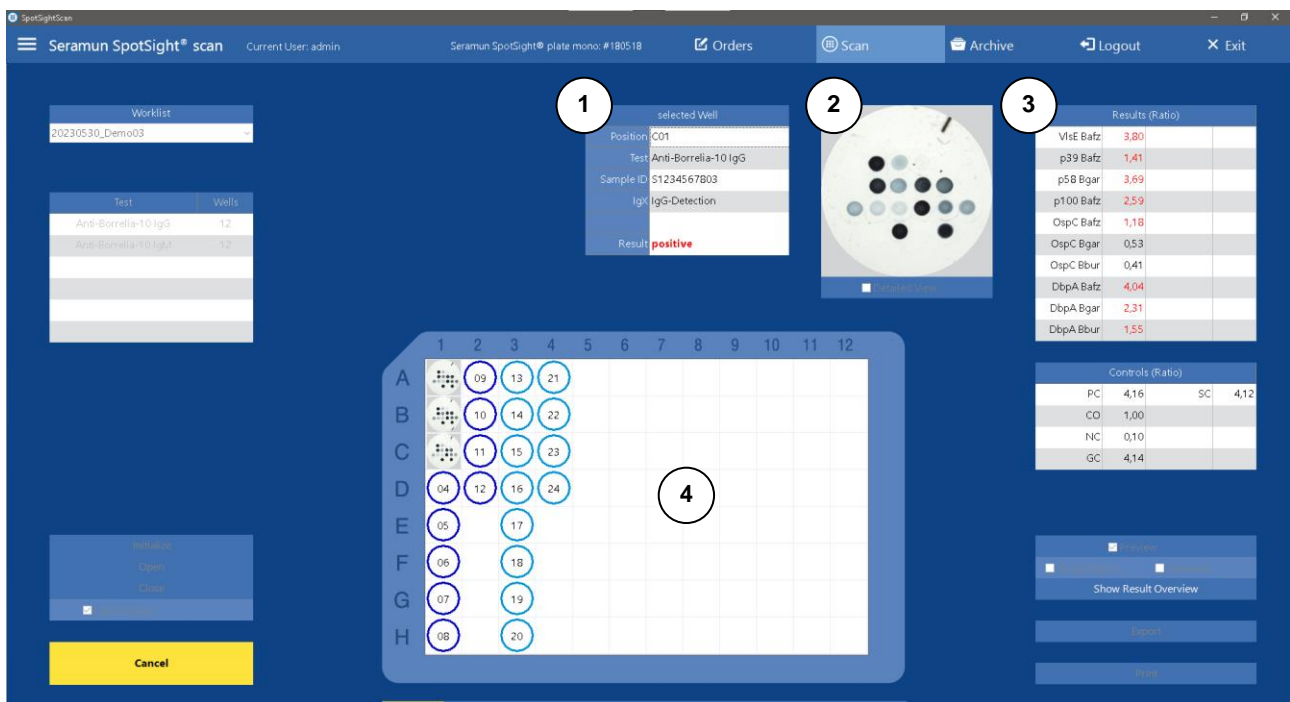

Figure 8: Page Scan during imaging (Seramun SpotSight® plate mono)
During imaging the software shows the last imaged well with results (see Figure 8 ①②③) in schematic illustration of the microtiter plate imaged wells are shown as thumbnails (Figure 8 ④). Below the schematic illustration of the microtiter plate a progress bar is displayed, showing the progress of the imaging process.
By clicking a thumbnail or a result box in the overview (Figure 8 ④; Figure 11 ④) a well can be selected. The properties of the well are shown in the well table (Figure 11 ①), an enlarged image is shown (Figure 11 ②) and the table on the right displays the corresponding results (Figure 11 ③).